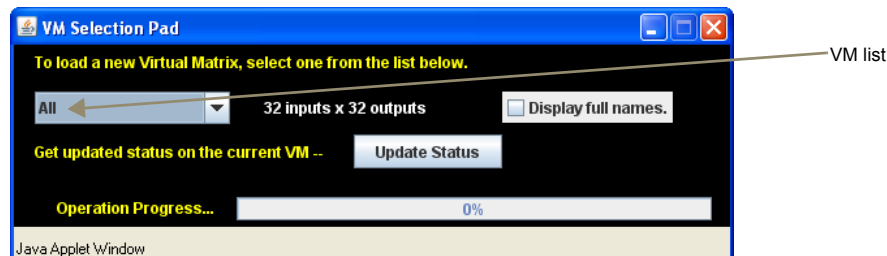

FIG. 97 VM Selection Pad
2. Click Update Status (FIG. 97).